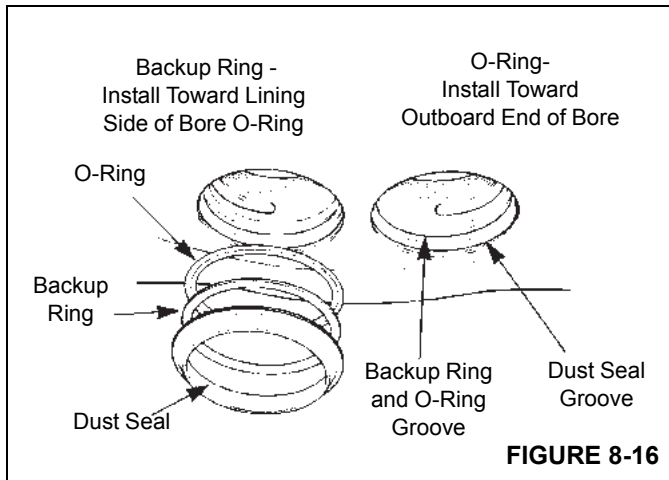

FIGURE 8-16
2. Install new o-ring and a new back-up ring in the groove in the middle of the bore. The o-ring is installed toward the outboard end of the bore. The back-up ring is installed toward the lining side of the bore (Figure 8-16).
3. Install a new dust seal in the top groove of the bore (Figure 8-16).